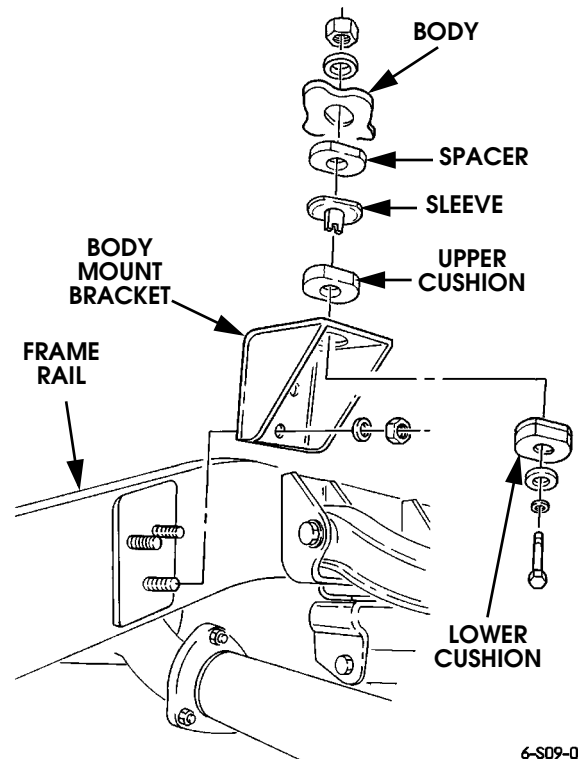

Figure 9-144: Left Intermediate Body Mount Bracket Replacement
3. Remove three locknuts, washers, and body mount bracket from frame rail (Figure 9-144).
1. Install body mount bracket on three bolts and frame rail with three washers and locknuts. Tighten locknuts to 90 lb-ft (122 N•m) (Figure 9-144).